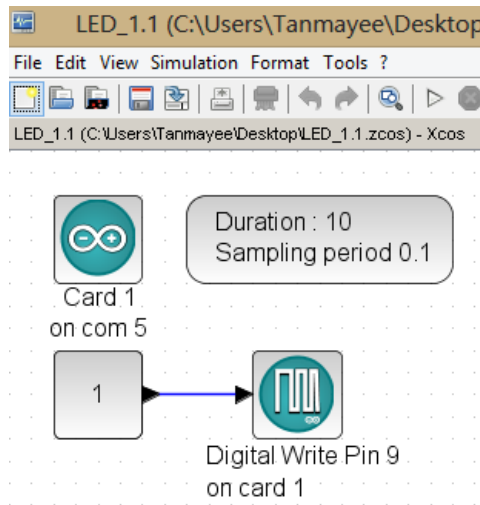

Figure 4.5: Turning the blue LED on through Xcos. This is what one sees when `Origin/user-code/led/scilab/led-blue.zcos`, see Footnote 2 on page 2 is invoked.
1. First we will see how to turn on the blue LED. When the file required for this experiment is invoked, one gets the GUI as in Fig. 4.5. In the caption of this figure, one can see where to locate the file.